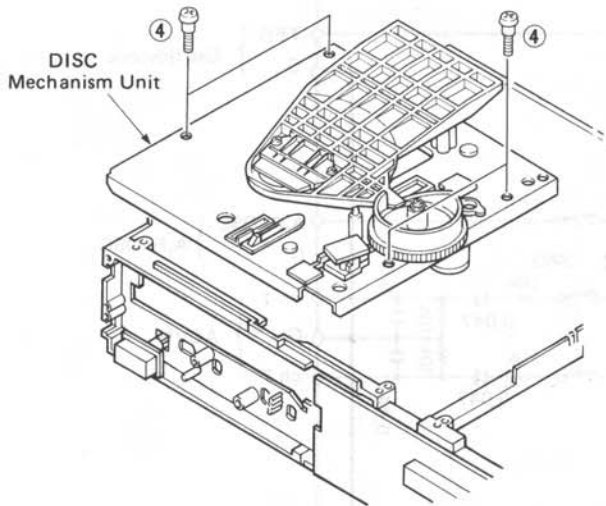

Fig. 4
Remove 4 screws (4) in fig. 4.